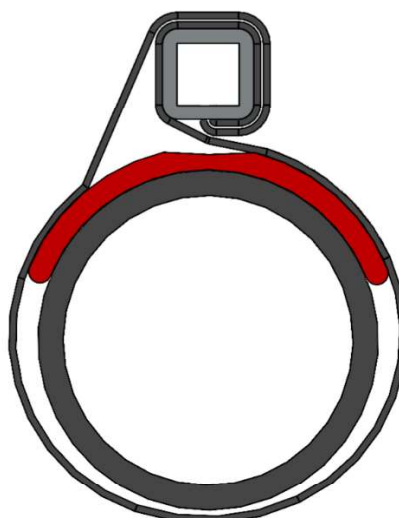

Figure 6 – Wrench Adapter Assembly Configuration for Re-Entrant Tip Replacement
- 2.4.1 Per Figure 6, Insert Tool Support for WA-001 (156-99-005) [red semi circle] between the Rubber Collar and Strap of Wrench Adapter (WA-001). Rotate Square Tube of Wrench Adapter clockwise to remove slack in Strap and ensure it remains in the channel of Tool Support for WA-001.